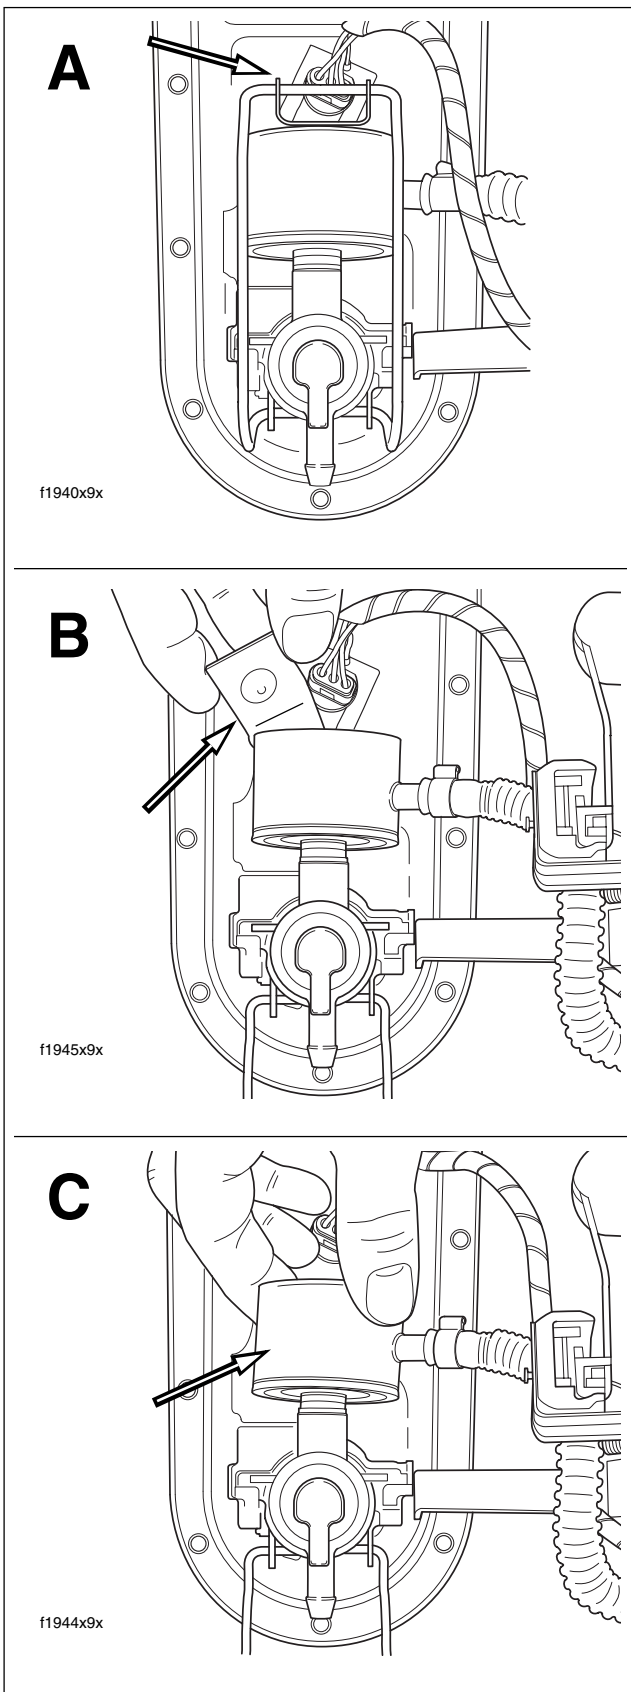

Figure 9-18. Remove Fuel Filter Canister (FLHR/C/S/I)
- a. Pull wireform to release from slots on fuel filter canister bracket. See A of Figure 9-18.
- b. Use hinge to swing wireform out of the way. Move canister bracket forward to disengage tab from slot on canopy weldment. See B of Figure 9-18.
- c. Pull fitting on canister from fuel pressure regulator assembly. See C of Figure 9-18.
- a. Install **new** O-ring onto fitting of fuel filter canister. Insert fitting into fuel pressure regulator assembly, so that inlet port is on fuel pump side. See C of Figure 9-18.
- b. Slide tab on canister bracket into slot of canopy weldment until bump on bracket engages depression at side of canister. See B of Figure 9-18.
- c. Use hinge to rotate wireform over canister bracket. Press on wireform until it fully engages slots on canister bracket. See A of Figure 9-18.